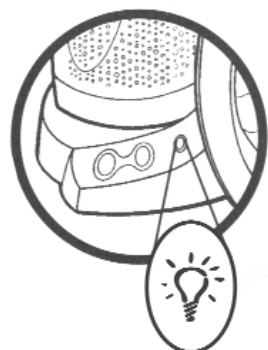

FIGURE 7
**1.** This indicates whether the system is programmed for municipal water, lake water or well water.\* (FIGURE 7)